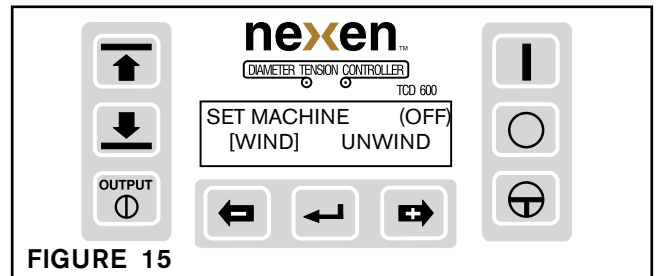

FIGURE 15
4. The lower display line will advance, prompting you to select wind or unwind (See Figure 15). Wind controls tension during the increase in the diameter of a roll, and Unwind controls tension during the decrease in the diameter of a roll. Press the plus or minus button to select WIND or UNWIND, then press Enter.